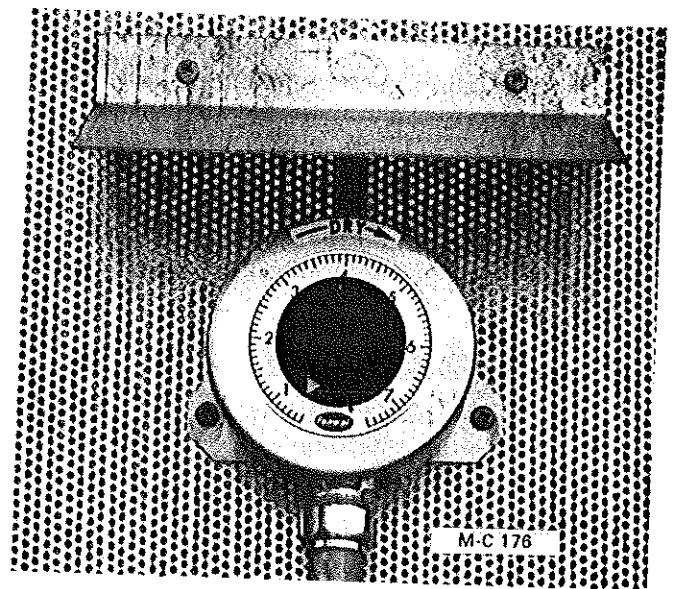

Figure 22
- Set the moisture control (Figure 22) on each side of the dryer by turning the indicator knob up until the ratchet pawl just disengages. Each moisture control will probably have a slightly different setting, this is normal.